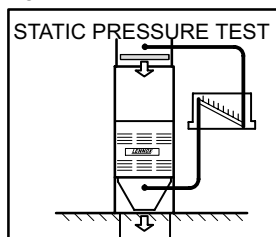

FIGURE 18
- 1 - Tap locations shown in figure 18.